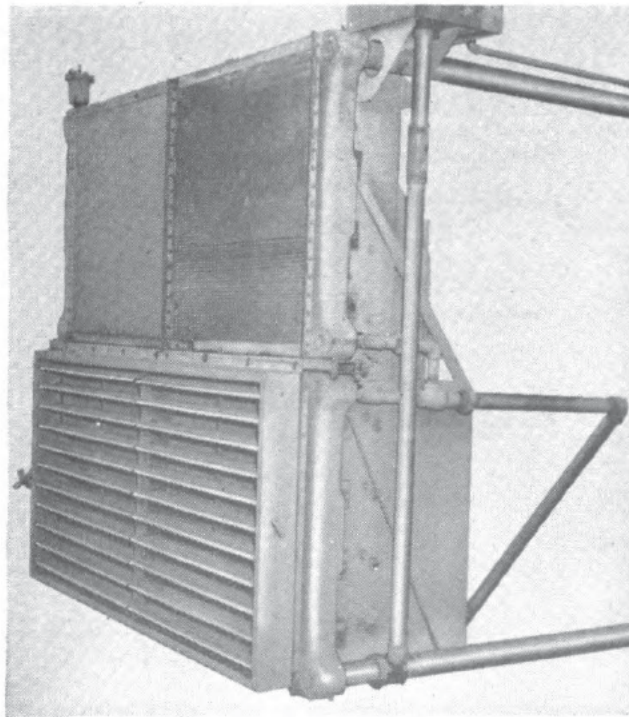

Figure 9-3.—Radiator cooling units.
direct system, the heated cooling water is piped to a spray or cooling tower where its temperature is lowered both by exposure to open air and by evaporation. The recooled water is then pumped back through the engine water jackets to complete the cycle. In the indirect system, the cooling water is recooled by means of a heat exchanger or a radiator. Raw water is used as the cooling medium in the heat exchanger while a fan must be provided to force air through the radiator. The indirect system is preferred to the direct system because there is less loss of cooling water by evaporation and consequently less makeup water required. In both systems, the cooling units and their accessories are usually located outside of the building. The piping system that carries the cooling water from the cooling unit to the engine and back to the cooling unit may be placed in concrete trenches or on overhead supports. Figure 9-3 shows two radiator coolers located outside of a central power station that houses two Diesel-electric power plants. Mounted on the back of each unit is a large fan. The small boxes
**COOLING FAN MOTOR CONTROL.**—This push button switch starts or stops the cooling fan mounted on the radiator units outside the building. (See fig. 9-3.)